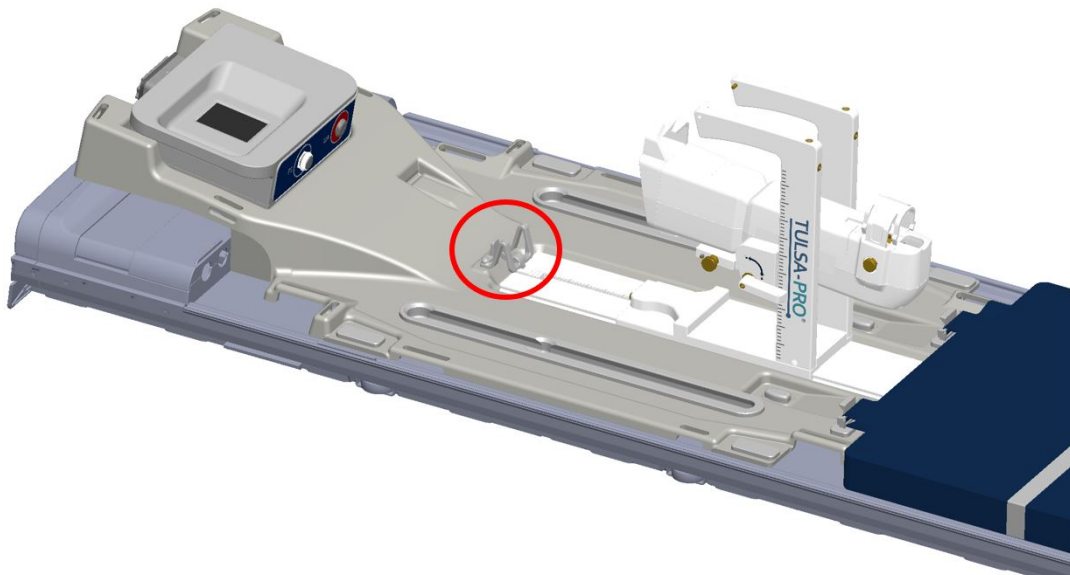

Figure 24: Secure the Positioning System using the latch on the base plate
2. MRI Technologist: Ensure that the slot for the PSIB is clear. Place the PS and PSIB in their respective slots on the base plate. Secure the Positioning System (PS) to its slot on the base plate between the patient's legs by snapping it into the latch (*Figure 24*).